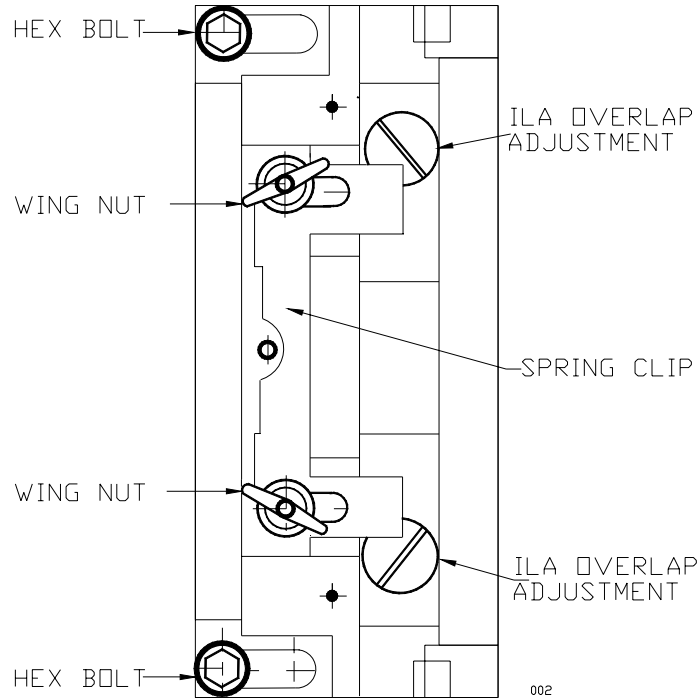

Figure 4-12. ILA[®] Assembly top view. The overlap screws shown are visible after the ILA[®] assembly is removed.
4. Loosen the two wingnuts at the top of the appropriate ILA[®] assembly (Figure 4-12).
5. Slide the spring clip at the top of the ILA[®] assembly backward (Figure 4-12). This will free the ILA[®] assembly.
6. Remove the 2 long hex bolts at the front of the Relay Lens (shown in Figure 4-12).
4. Rotate the Projection Lens left or right so that the notch on the lens clears the locking screw on the lens holder (Figure 4-12). Carefully slide the lens out.